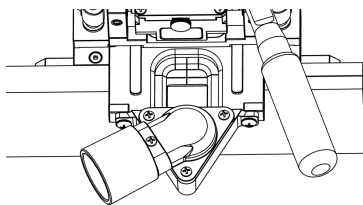

FIG. 9
2. Once you have your center location, clamp your material down in a vice or hold it in place using clamps. (See Figure 9)